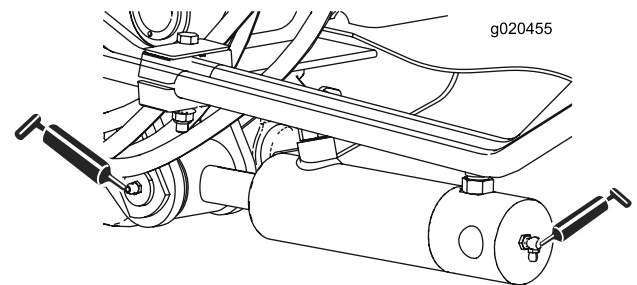

Figure 43
- 2 (each side) lift-arm-cylinder bushings (Figure 43)